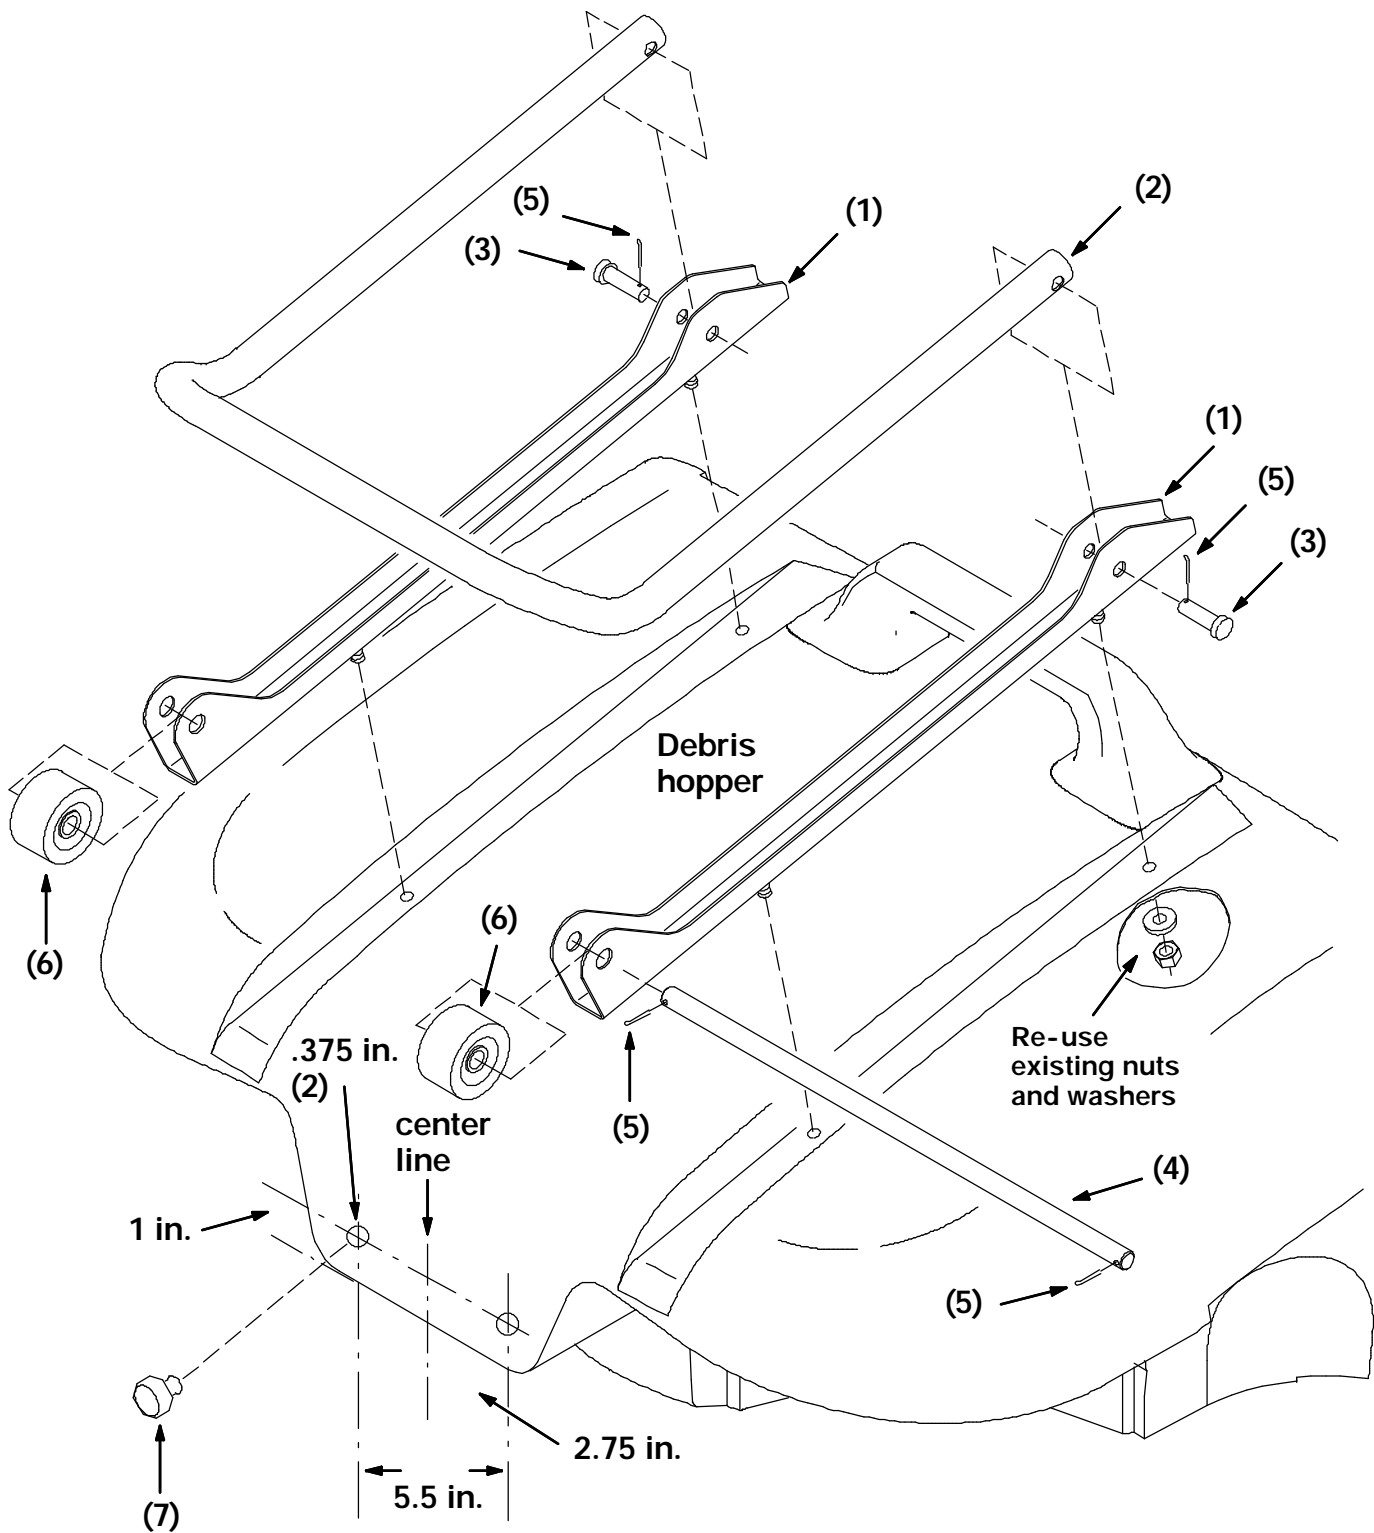

FIG. 1 - Dump Assist Kit Assembly
(Refer to FIG. 1)
1. Remove the debris hopper from the machine. (Refer to FIG. 1)
3. Install the two hopper assist brackets (1) on top of the hopper. (Refer to FIG. 1)
4. Install the wheels (6) on the hopper assist brackets (1). Use the hopper assist shaft (4) and two cotter pins (5). (Refer to FIG. 1)
5. Install the hopper assist handle (2) on top of the brackets using two clevis pins (3) and two cotter pins (5). (Refer to FIG. 1)
6. Use the dimensions in FIG. 1 to mark and drill the two .375 in. holes in the front of the hopper. (Refer to FIG. 1)
7. Pound the two wear buttons (7) into the holes drilled in step 6. (Refer to FIG. 1)